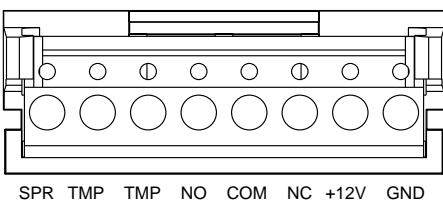
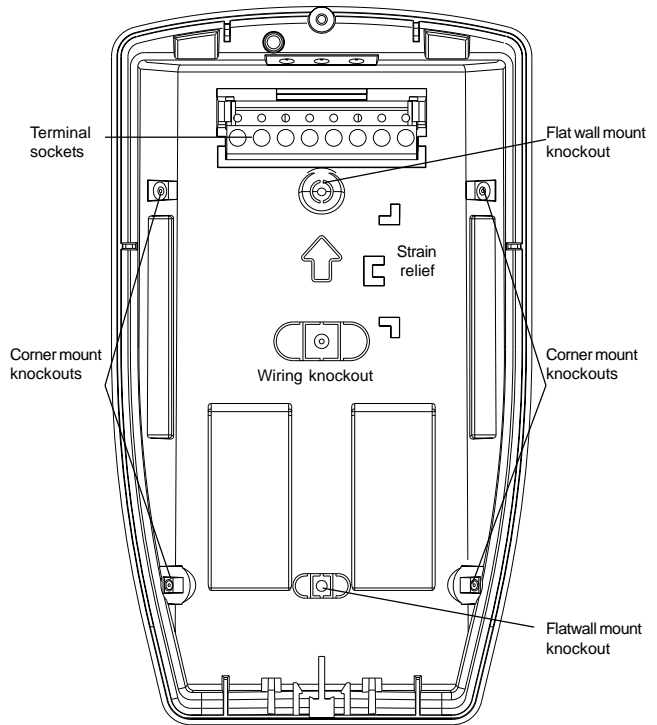
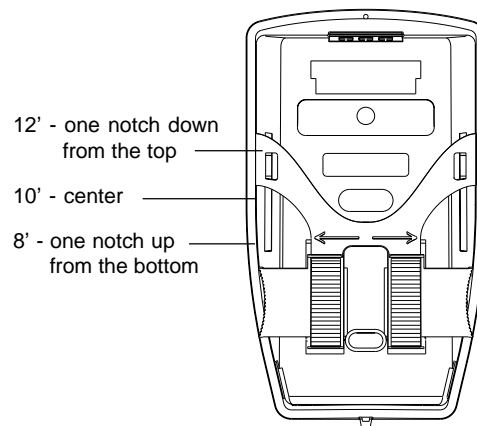

Figure 3. Wiring
Figure 4. Detector Base
Figure 5. Mounting Adjustment Bracket
4. Remove the appropriate wiring and mounting knockouts from the back cover. The detector can be mounted on a flat wall or in a corner. See Figure 4.
6. Run each wire through the strain relief (see Figure 4) and under the appropriate screw terminals (see Figure 3) on the base and tighten the screws.
Mount the unit using the two flat wall mount knockouts (see Figure 4) Use the bracket to adjust the angle of coverage for mounting on a flat wall. See Figure 5 for the best initial bracket setting for the mounting height used. Make sure the mounting screws are tightened before testing the unit. If you need to make further adjustments, loosen the bottom screw, adjust the bracket, tighten the bottom screw, and test the unit.
Mount the unit using two corner mount knockouts (see Figure 4) on one vertical side of the unit. The top corner mount knockouts are designed with room to adjust the coverage pattern. Mount and tighten both corner mount screws. Test the unit. If you need to make further adjustments, loosen the top corner mount screw, adjust the unit, tighten the top corner mount screw, and test the unit.